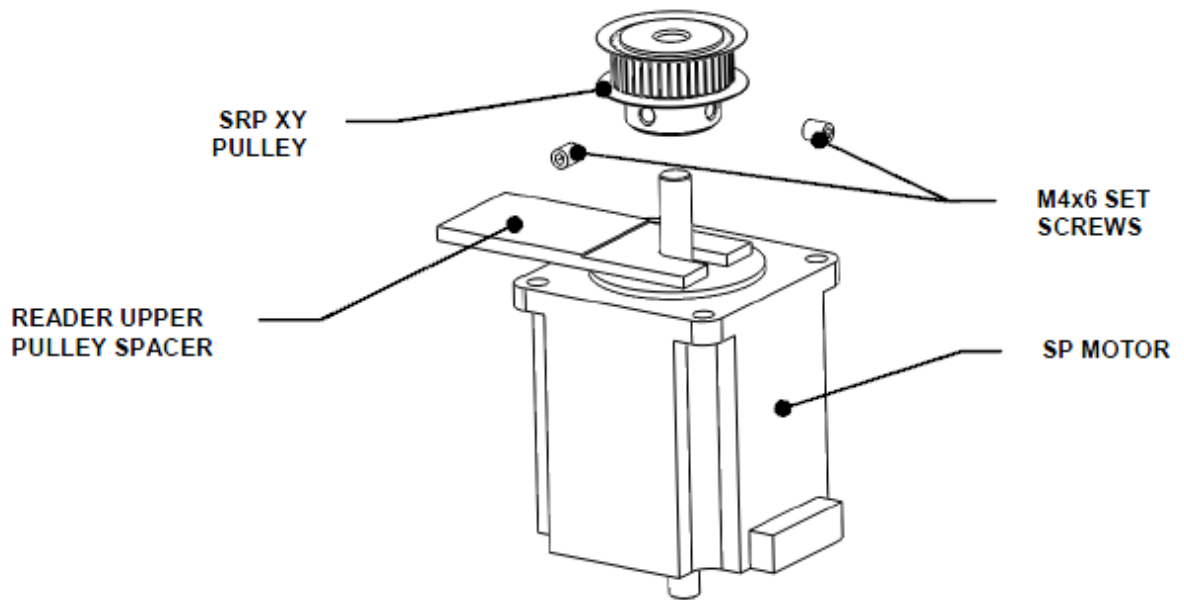

Figure T-4: Affixing the Pulley
1. Mount the pulley on the shaft of the motor (discard any set screws that come with the pulley) with the screws that were used on the old motor as shown in Figure T-4. Use the Upper Pulley Spacer Ø7.0x2.5 (DS2FIX006) to set the appropriate distance and affix the set screws with Loctite 222.